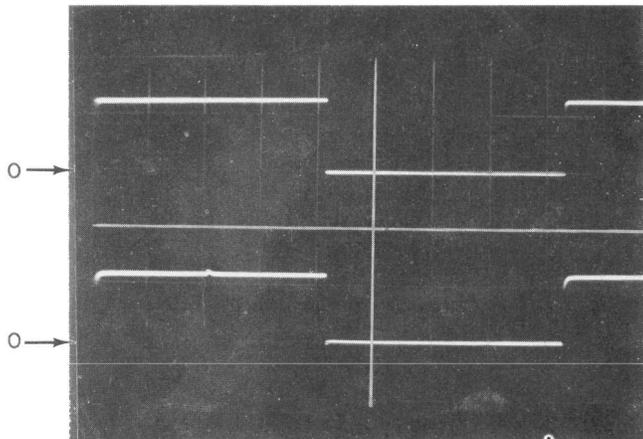

Fig. 39—Waveform—Connect A Probe to ST Lead, B Probe to SR Lead
- (15) Replace cards 008, 009, and 059 if proper result is not obtained.
- (16) Set TIME/CM to 50 μ sec.
- (17) Set scope MODE to CHOPPED.
- (18) Place CHAN A probe to TP1 on 040, ST lead, and CHAN B probe to TP11 SR on 053. Observe waveform as shown in Fig. 39.